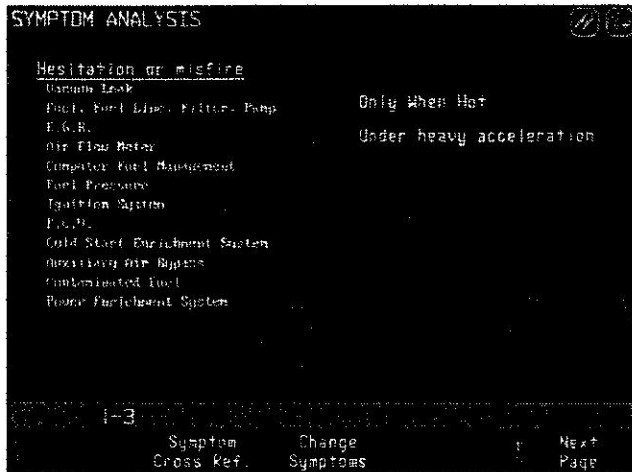

Figure 2-10
If you have chosen a single symptom, the screen will appear as shown in Figure 2-10.
- [F2] – to display the individual symptoms on a screen that looks similar to Figure 2-10;